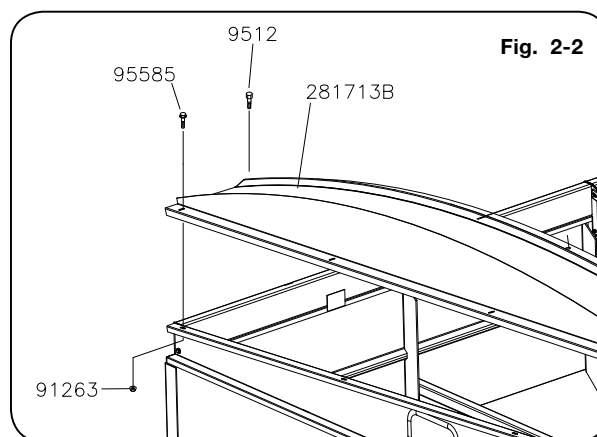

Fig. 2-2
2. Assemble the end caps (281713B) to the front and rear side boards with flange screws (95585) and flange nuts (91263). Fasten to right and left side boards with self-threading screws (9512). Install Trim-lok on front board. See figure 2-2.